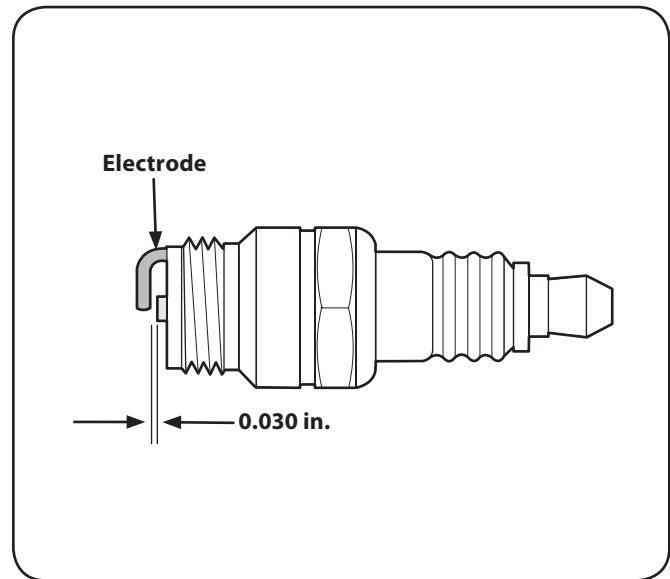

Figure 6-7
3. Measure the plug gap with a feeler gauge. Correct as necessary by bending side electrode. See Figure 6-7. The gap should be set to 0.030 in.